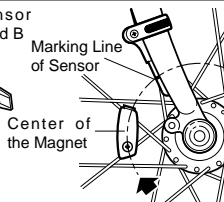
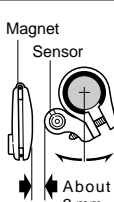

Fig.11
Fig.12
3. Align the magnet's center and the sensor's marking line (Fig. 11), and make sure of 2mm clearance between the magnet and sensor (Fig. 12). Then tighten the screw securely. Cut off the excess of sensor band B.